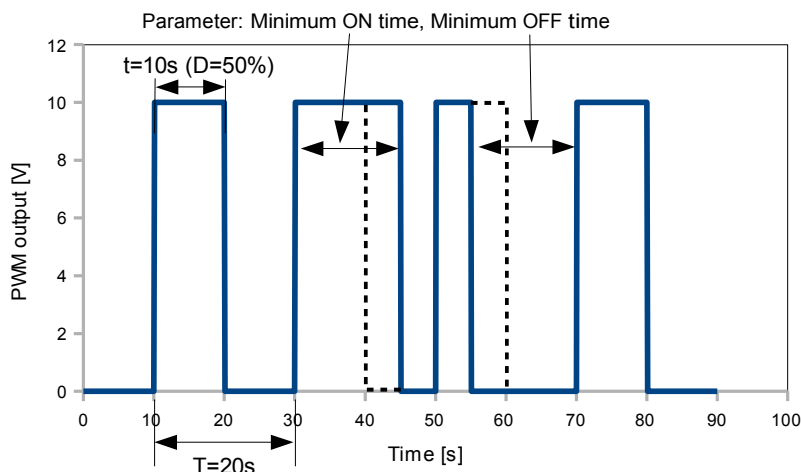

Fig. 7.88. Sample of output signal of SSR relay in PWM mode
- Minimum ON time - minimum duration of high state (after switching to high state, switch back is possible after Minimum On time), see Fig. 7.88,
- Minimum OFF time - minimum duration of low state (after switching to low state, switch back is possible after Minimum OFF time), see Fig. 7.88,